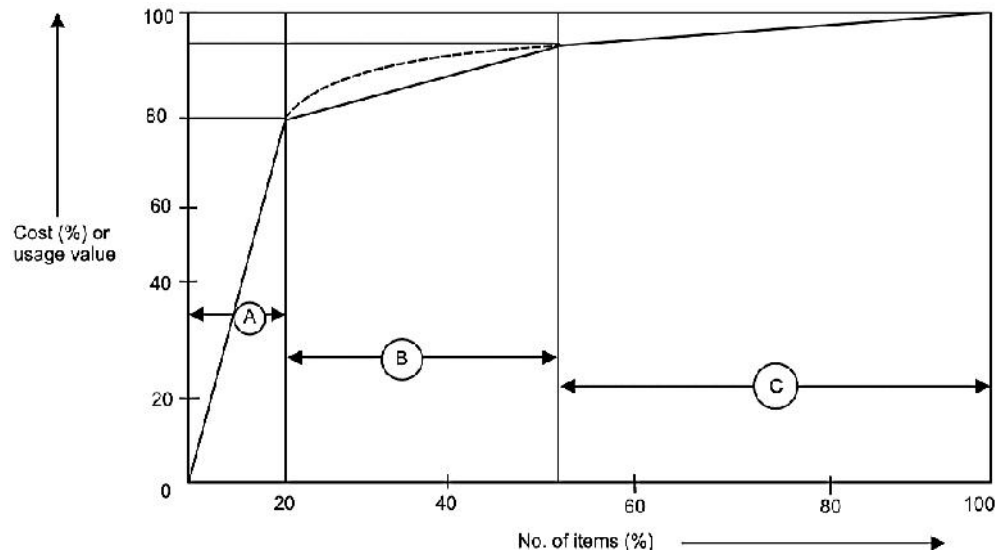

Figure 6.1: ABC Classification
*The graphical explanation of this above ABC classification is given below in figure 6.1*